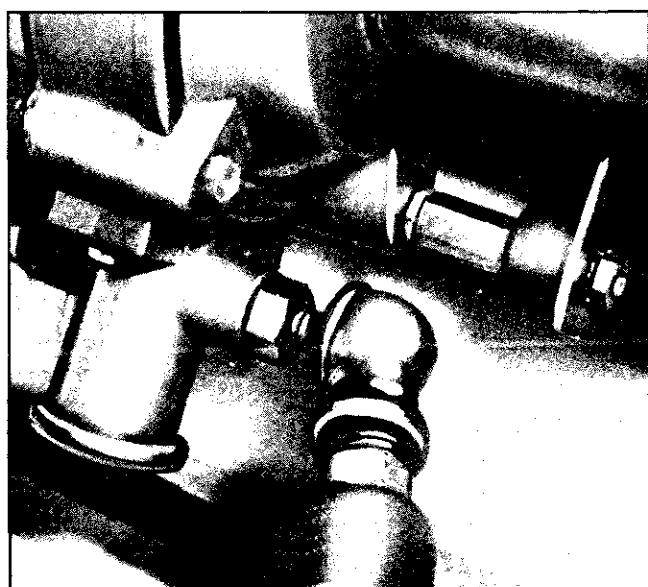

Fig. 4-26 Filling System through Service Valve
3. Inflate system through service valve to maximum available pressure (Fig. 4-26).
1. With all engine operated accessories turned off and ignition turned off, deflate system through service valve. Remove high pressure line at regulator and connect test gage (Fig. 4-26).
2. Inflate system through service valve to maximum available pressure (Fig. 4-26).